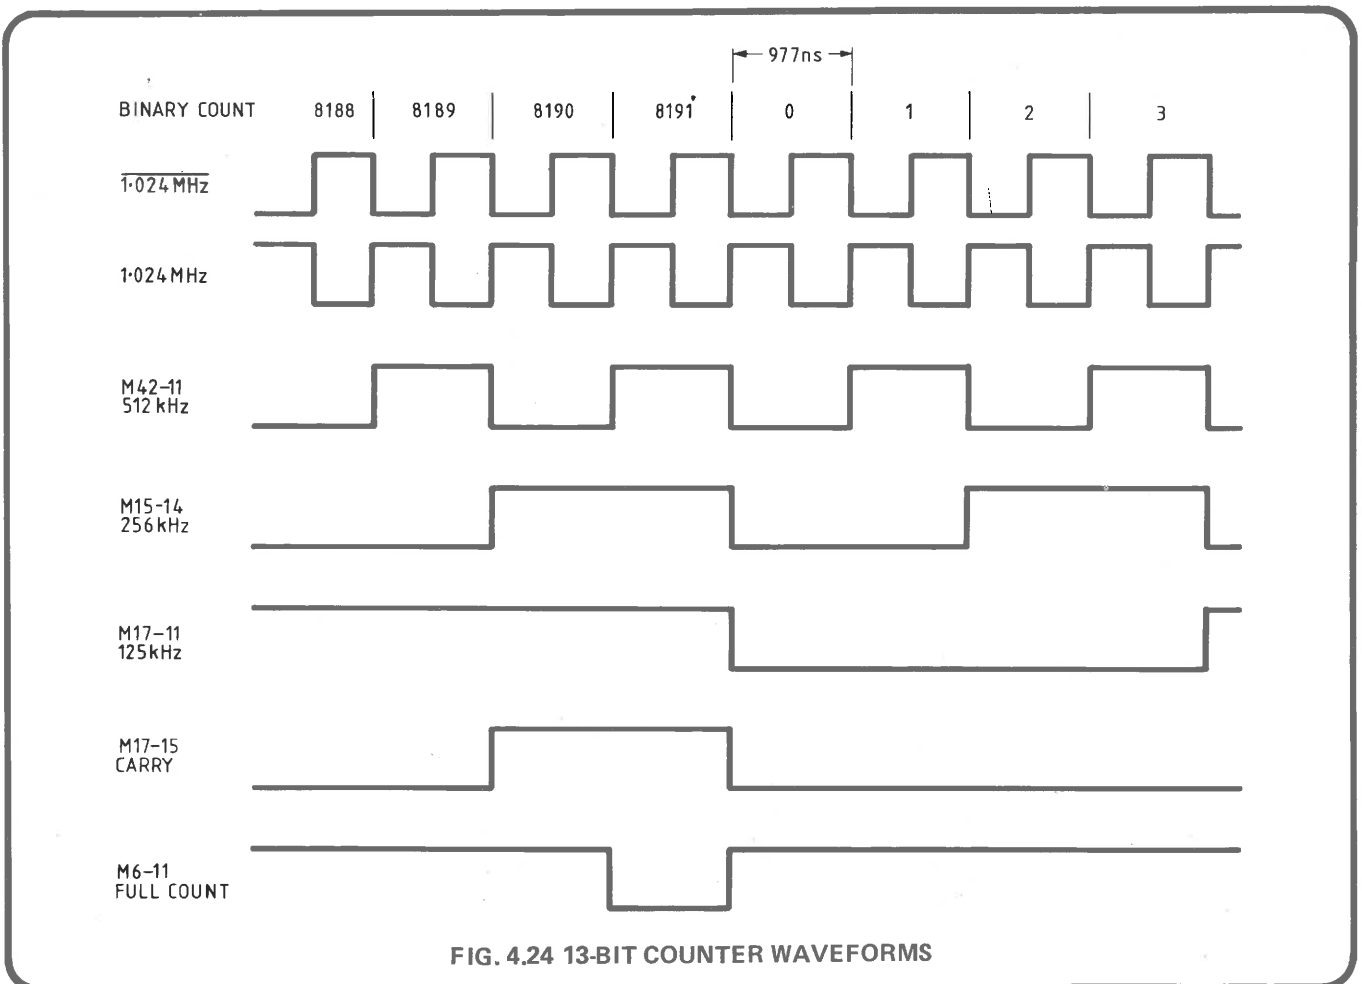

FIG. 4.24 13-BIT COUNTER WAVEFORMS
4.6.2.2 13-Bit Counter (Circuit Diagram No. 430443 Sheet 2) (refer to Fig. 4.24 for Waveforms)